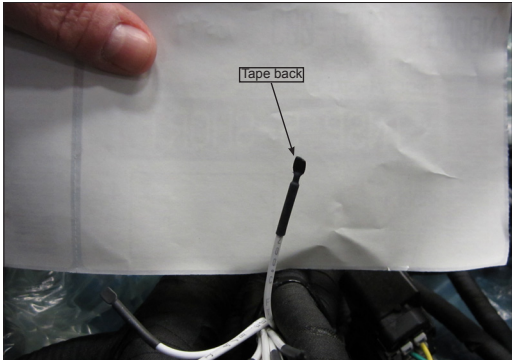

Figure 5 - Extract the Wires From the ECM Connector
- 1.5. Cut and tape back using N27548-18 all wires that were disconnected. For APS 1, use positions 9, 10 and 33. For APS 2, use positions 61 and 64. Install the five new wires of the bypass cable wire kit. Reassemble the ECM connector and lower the vehicle (see Figure 5).